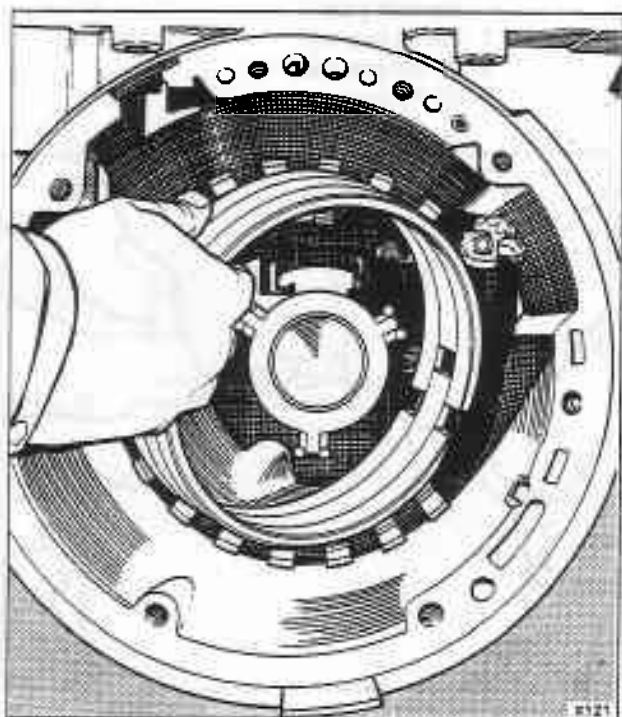

Fig. T20-20 Fitting the rear band
1. Fit the rear band assembly into the transmission case so that the band lugs engage with the anchor pins (see fig. T20-20).